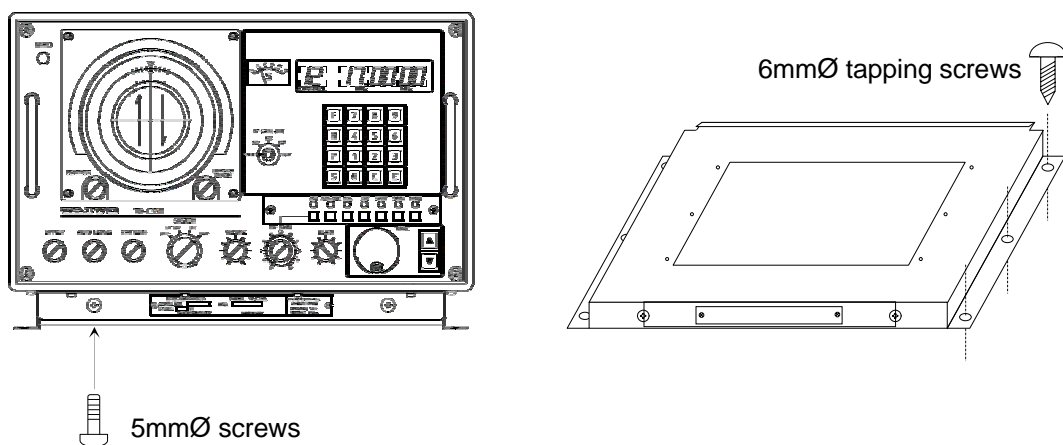

Fig. 3-11 Setting of main unit
- (1) Loosen 2 screws (5mm $\varnothing$ ) to separate its mount, referring to Fig. 3-11.
- (2) Fix the mount to the place to be installed with 6 tapping screws (6mm $\varnothing$ )
- (3) Fit the main unit to the mount with 2 screws (5mm $\varnothing$ )